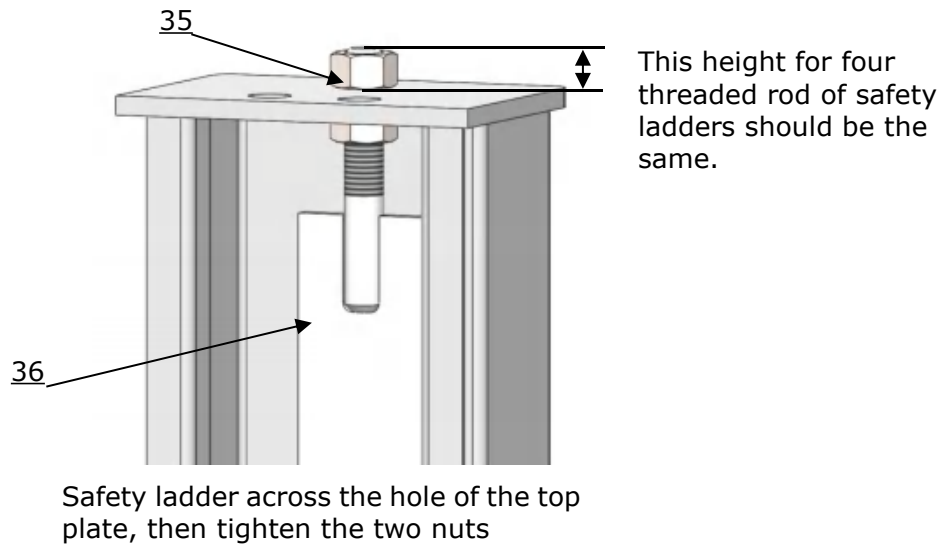

Fig. 18
2. Install safety ladders (**See Fig. 18**).